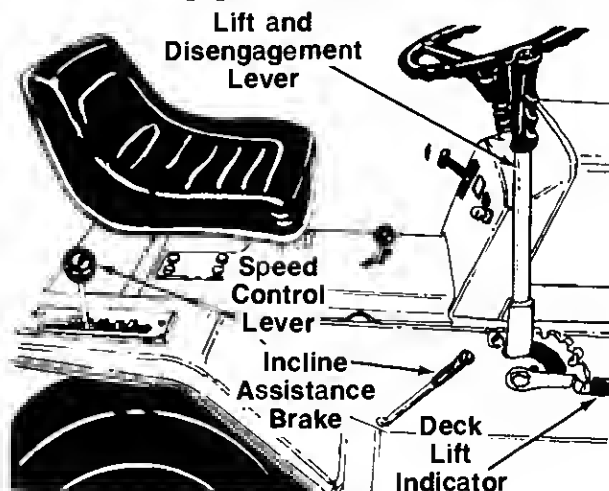

FIGURE 17.
The speed control lever allows you to regulate the ground speed of the lawn tractor. See figure 17. To select the ground speed, depress clutch pedal. Push speed control lever outward and move backward to slow lawn tractor, move forward to increase speed. When desired speed has been obtained, release lever in that position. Whenever clutch is engaged, unit will automatically go to the pre-set speed.
When stopping on a hill, hold the incline assistance brake lever back while you release the clutch-brake pedal until the lawn tractor begins to move, then release the lever. This lever permits smoother starts and clutch engagement by holding the tractor during the brake release/clutch engagement operation. See figure 17.
The lift and disengagement lever is used to raise and lower the cutting deck. Pulling it all the way back and locking it disengages the blades. The lift and disengagement lever must be in the disengaged position when starting the engine, when shifting into reverse or if the operator leaves the seat. See figure 17.
The deck lift indicator marks the position being used for the lift lever. Select the lift lever position desired, press the indicator lever outward, move it to the position immediately below the lift lever and release the indicator lever. See figure 17.
3. Place the lift and disengagement lever in the DISENGAGED position. See figure 17.